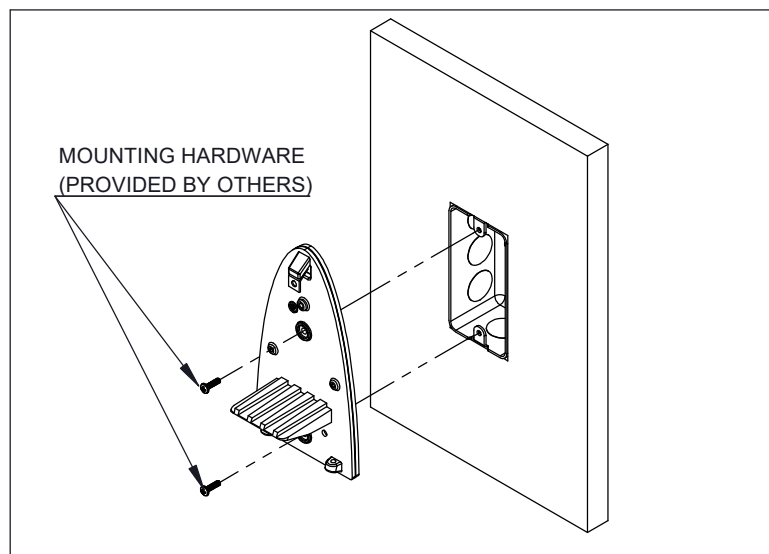

Figure 2
2. Mount Back Plate on the junction box to the wall with Mounting Hardware (provided by others) (Fig. 2).